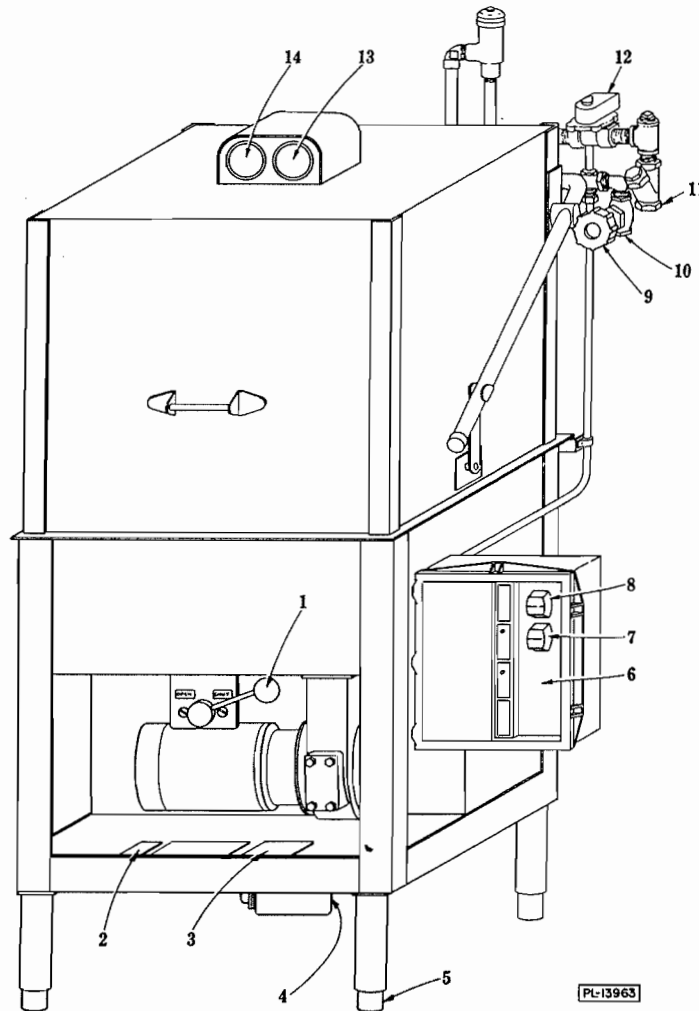
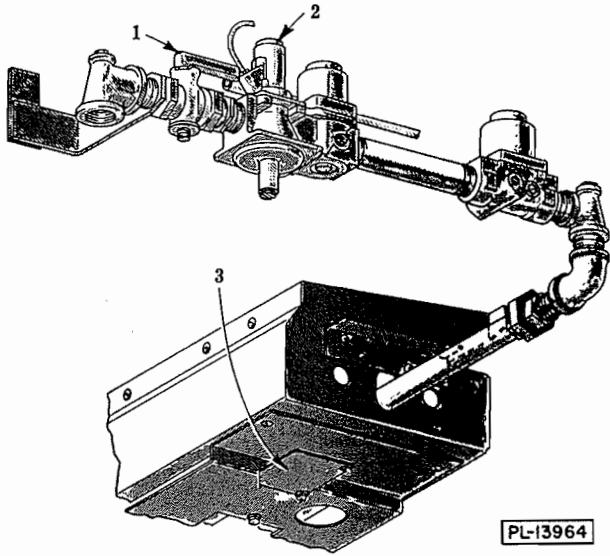

Fig.1
Fig. 3
A.7.2 NOTE: If tank is accidentally drained before turning off power switch (8, Fig. 1), the float controlled low water protector switch will automatically de-energize the heater. When the water level is again returned the tank water heat will be automatically energized.
B.1.1 Set the dishwasher in its proper location. Adjust to height and level by turning the threaded feet (5, Fig. 1). Make sure the dishwasher is level before making plumbing connections. There must be adequate room to open and service control box (6, Fig. 1).
B.2.1 Before making any electrical connections, check the specifications of the equipment on machine data plate (3, Fig. 1) to make sure they agree with those of your electrical service. A fused disconnect switch or circuit breaker (not furnished) MUST be installed in the electric service line supplying this device and should meet the requirements of your local electrical code. All connections are made at the terminal block in the control box (6, Fig. 1).
B.3.1 Connect the drain (4, Fig. 1) to the sewer using 2" pipe. If a grease trap is required by code, it should have a flow capacity of 42 gallons per minute. Left-hand drain is standard. Interchange plug for a right-hand drain.
B.4.1 A separate 1/2" fitting (10, Fig. 1) is provided for connecting the fill line. The temperature of the water supplied to the dishwasher should be 150° to 160° F.
B.5.1 The water for the rinse should have a temperature of 180° to 195° F. and have a flow pressure of 20 to 25 P.S.I. at the machine. Use 3/4" pipe for the connecting line. Connect pipe to the line strainer (11, Fig. 1) which is assembled directly ahead of the fill (solenoid) valve (12, Fig. 1) to prevent foreign matter from reaching the valve. For long runs, use larger pipe to insure proper flow pressure. If pressure exceeds 25 P.S.I., a pressure reducing valve must be installed in the rinse supply line.
- a. Turn handle to open shut-off valve (1, Fig. 3).
- b. Open lighter hole cover (3, Fig. 3).
- c. Push and hold depressed the re-set button (2, Fig. 3) while also holding flame inside the lighter hole. A 3" candle or similar extender is a good aid to get flame up to the pilot port. Hold re-set button depressed for 30 to 45 seconds or until pilot burner continues to burn when button is released. Pilot flame should surround end of thermocouple approximately 1/2". A mirror may be used to check the pilot flame.
- d. Close lighter hole cover (3, Fig. 3).
NOTE: There is a separate gas specification plate (2, Fig. 1) attached to the dishwasher.
B.6.2.5.1 Gas flow to the main burner is regulated by the solenoid valve of the control valve. With the power switch (8, Fig. 1) turned "On", the shut off valve open (1, Fig. 3), the temperature control circuit board regulates the flow of gas to the burner.
C.1.5 Wash thermometer (13, Fig. 1) should register between 150° and 160° F. Rinse thermometer (14, Fig. 1) during rinsing operation, should register 180° to 195° F. These temperatures are necessary for proper dishwashing.
C.1.1 Close the drain by turning handle (1, Fig. 1) to "shut".
C.2.3 When operating the standard (W/O Timed Fill) machine, load rack, close doors and turn cycle switch (7, Fig. 1) "On". When pilot light goes out, (after approximately 60 seconds) open doors and slide in second rack. Close doors, push cycle switch to "Off" position, then push cycle switch to "On" position to start cycle. The dishes in the first rack will be washed, rinsed and steaming hot. They will air dry in a few minutes.